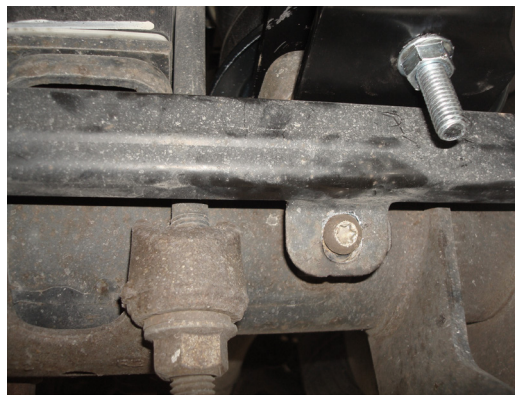

Fig. 24
1. If the holes in the cover are slightly misaligned with the threaded holes on the axle, file or die grind slots in the existing bracket holes (Fig. 23) to get the holes to line up enough to reinstall the screws (Fig. 24).